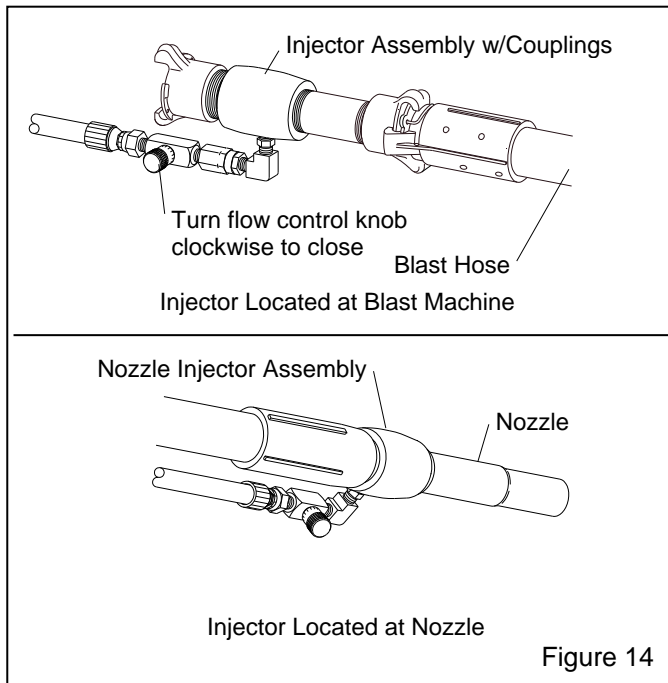

Figure 14
4.1.2.4 Make sure the water flow-control valve is closed (knob turned fully clockwise) as shown in Figure 14.